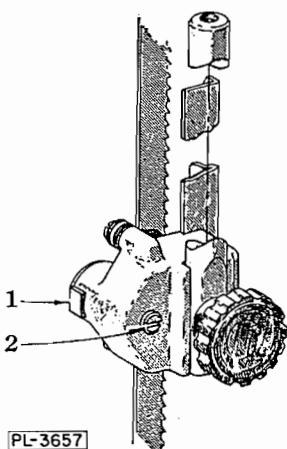
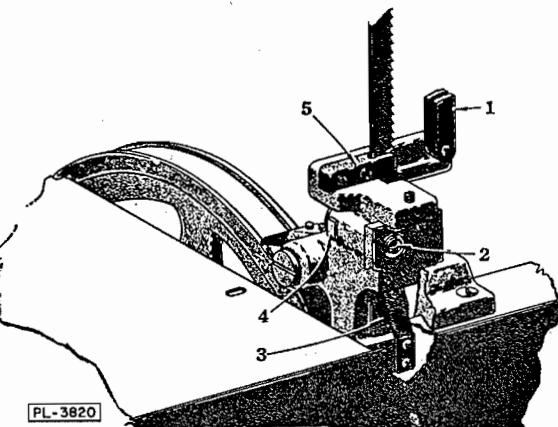
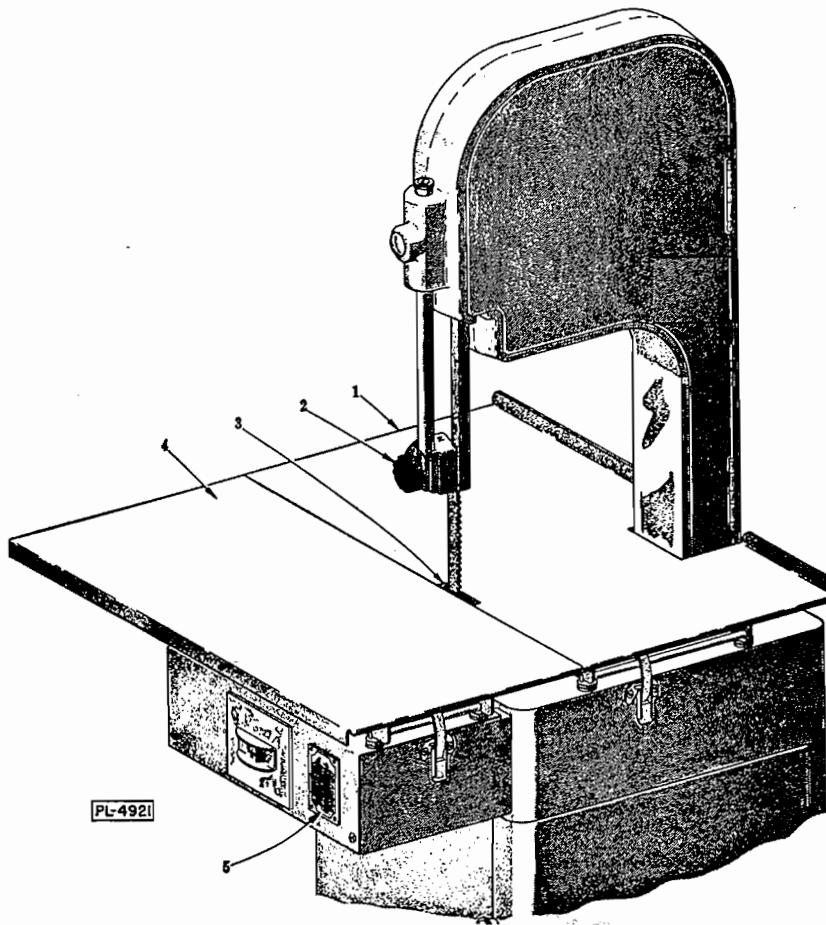

FIG. 2
FIG. 3
FIG. 4
(2) Lower the upper blade pulley (2, Fig. 1) by giving the tension adjustment hand wheel (5, Fig. 1) a few turns to the left. Open the head door (20, Fig. 1). Lift out the lower wiper unit (Fig. 3) and place the saw blade over the upper (2, Fig. 1) and lower (15, Fig. 1) blade pulleys. The teeth must point to the right and downward when viewed from the front as shown in Fig. 3. If they do not point downward, remove the blade, twist inside out and replace it on the saw. Make sure the blade is centered in the upper blade wiper (19, Fig. 1) and properly placed in the upper guide unit (Fig. 2).
(3) Put in the lower wiper unit (Fig. 3). Before sliding it into place, swing up the bakelite guard (1, Fig. 3) and see that the saw blade is between the two wipers (3, Fig. 3) and in the guide slot of steel block (5, Fig. 3). After sliding the unit into place, close down the bakelite guard (1, Fig. 3).
(4) Put on the table (1, Fig. 4). Locate table in position by the locating block (3, Fig. 4), being sure the support angles on the underside of the table are inside the locating pins of the four table rests (17, Fig. 1) on the base (14, Fig. 1). Then lock in place by closing the table clamps (16, Fig. 1) at each end.
(5) Assemble the table extension (4, Fig. 4) with the support angles on the underside of the extension inside the four table rests (9, Fig. 1). The locating block (3, Fig. 4) is used for positioning the extension. Lock in place by closing the table clamps (8, Fig. 1) at each end.
Before connecting to the power line, check the data on the name plate (5, Fig. 4) to make sure that the motor is correct for your electric service. Make your installation connection from the power line directly to the switch (7, Fig. 1). In order to avoid having conduit at the front of the machine, it is recommended that flexible (or rigid) conduit be connected through the electric inlet hole (13, Fig. 1) in the base (14, Fig. 1). The motor and switch are connected at the factory.
(1) UPPER GUIDE ASSEMBLY (Fig. 2). Keep as low as the size of the work permits.
(2) UPPER BLADE GUARD. Keep in vertical position.
(4) Swing lower saw blade guard (1, Fig. 3) up and lift out lower wiper assembly. Clean unit thoroughly and LUBRICATE WITH TASTELESS OIL.
(7) To remove the upper guide unit (Fig. 2), remove the hand knob (2, Fig. 4) (blade tension already released) then lift off unit. Clean, lubricate with TASTELESS oil and replace.
At the back edge of the saw blade in the upper guide (1, Fig. 2) and the front lower wiper unit (4, Fig. 3) are special tungsten carbide blade back-up blocks (eliminating the old fashioned ball bearing back-up). These special blocks take the cutting thrust. The clearance between these blocks and the blade, with the saw running with-
NOTE: Adjust the upper back-up block (1, Fig. 2) by turning screw (2, Fig. 2) and lower back-up block (4, Fig. 3) by turning the screw (2, Fig. 3).